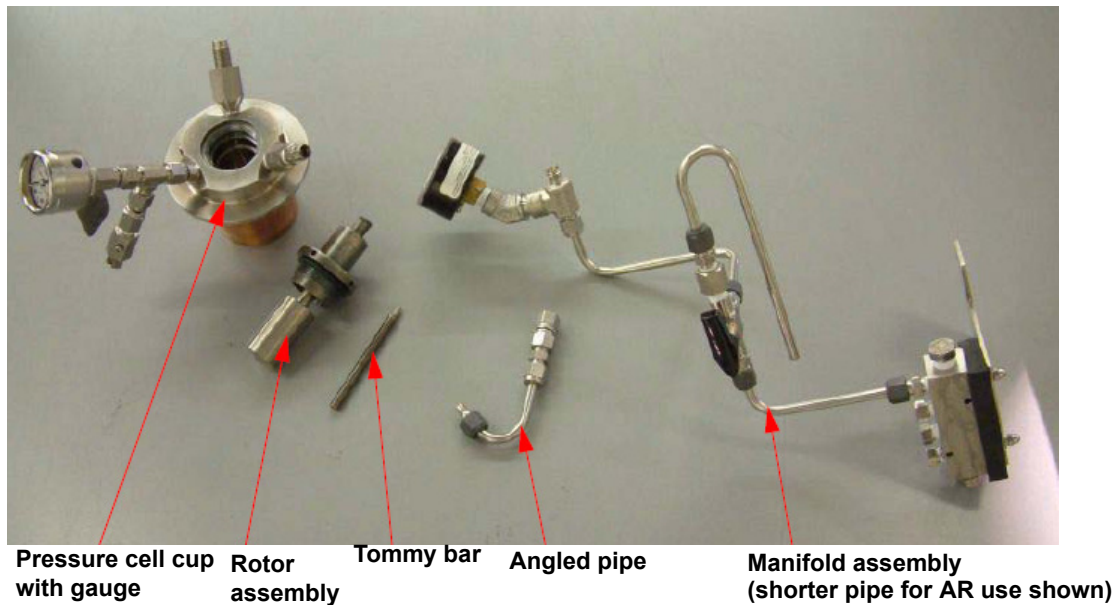

Figure 11 Entire Pressure Cell configuration disassembled.
Step 3 (for AR Series use only): To use the Pressure Cell with AR Series Rheometers, replace the long pipe on the manifold assembly (identified below) with the shorter pipe in the kit. Refer to Figure 11 below to see the manifold assembled for AR use.